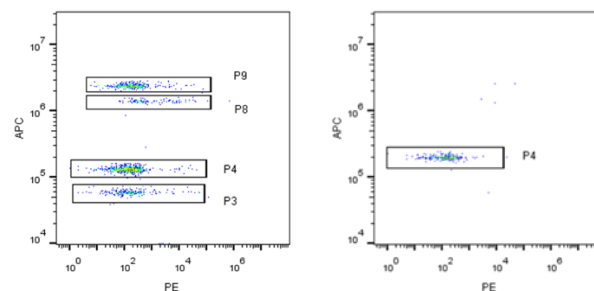

Figure 2
- 5) Apply proper PE/PE-Cy7 and PE/PE-Cy5 color compensation so that the bead populations are in a horizontal position (Figure 2).